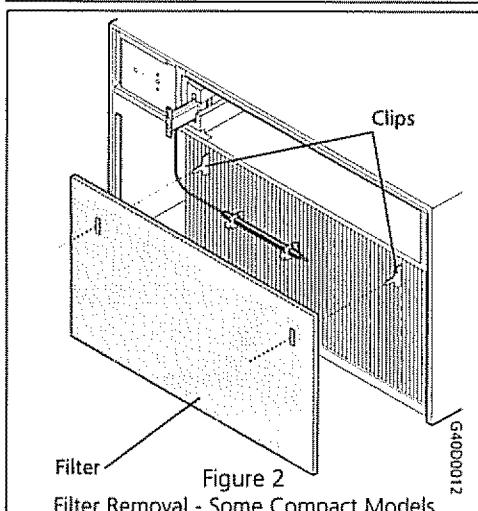

Figure 2
5. Remove filter by pulling filter straight off of clips (Figure 2). Clean according to instructions under "Air Filter Cleaning" section